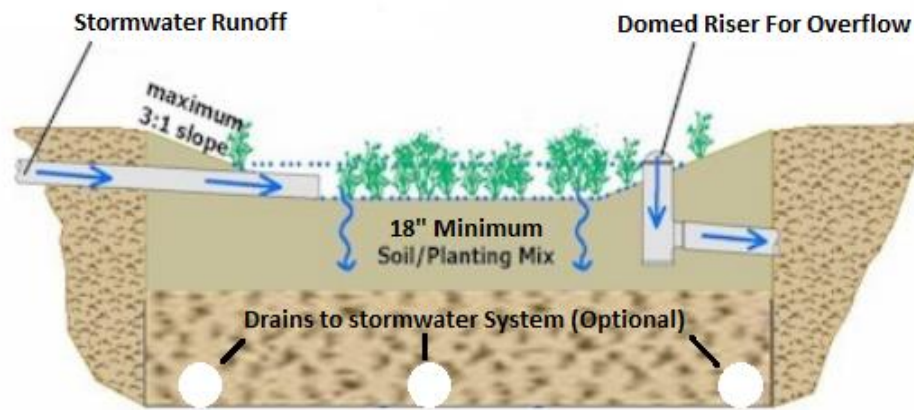

Figure 22. Rain garden schematic and specifications.
- Soil should have a infiltration rate >0.2 in/hr or have drains placed to assist water movement (Figure 22). Alternatively, replace native soil with planting mix to assist infiltration.